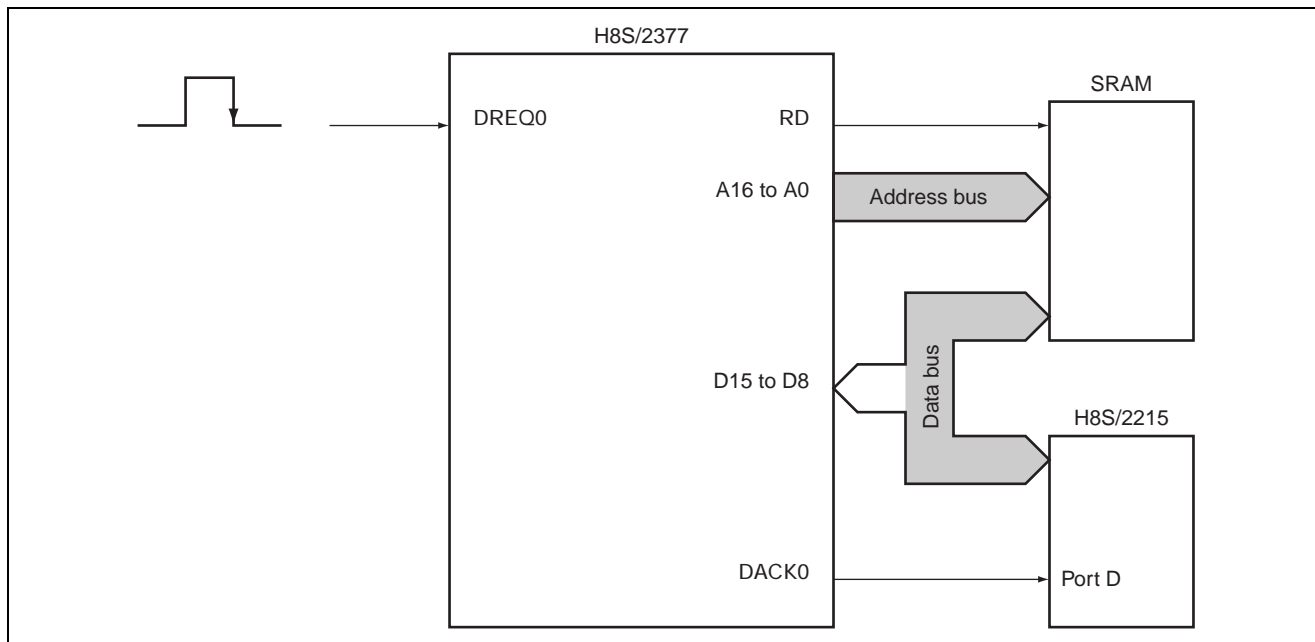

Figure 1 Data Bus in the Single-Address Mode
1. As shown in figure 1, this sample task uses DMAC single-address mode to transfer data between the external space specified by a transfer source address or transfer destination address, and an external device that is selected by a DACK0 strobe independently of the address.